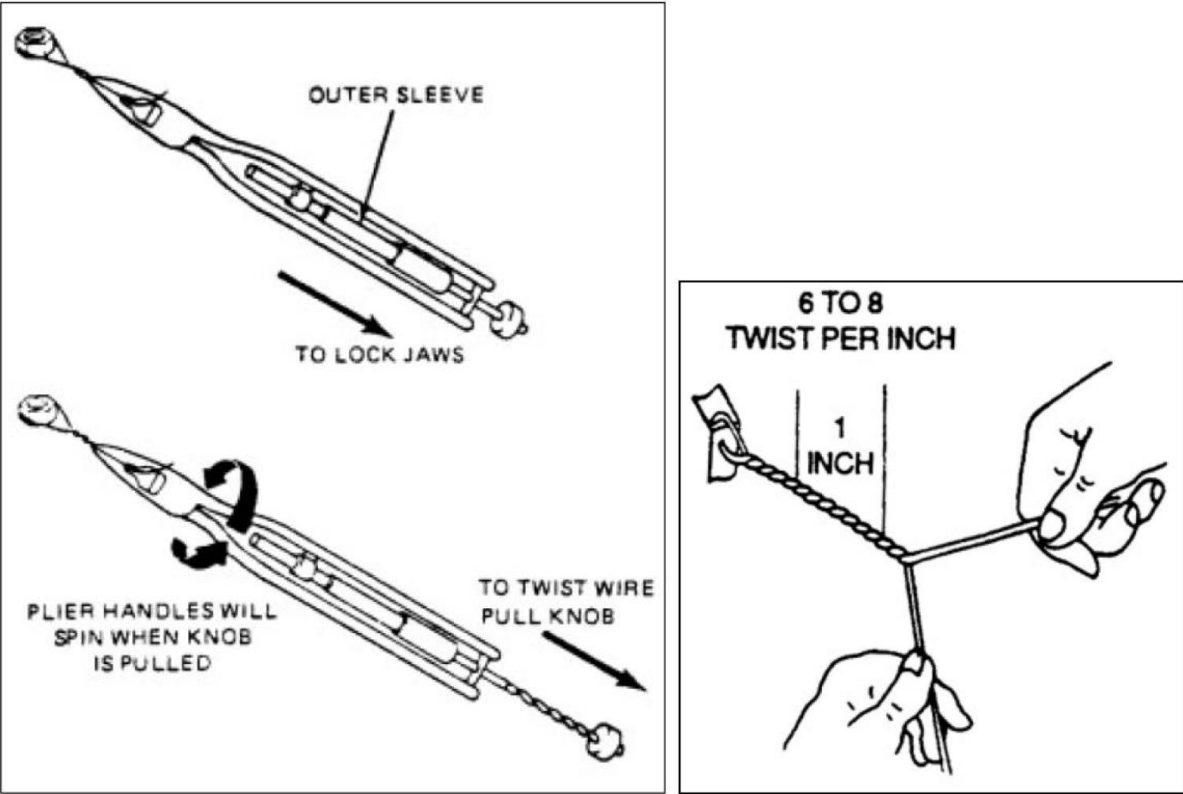

Figure 48 – Safety Wire Installation Using a Twister/Pliers & By Hand
- e. Safety wire must never be over-stressed. Safety wire will break under vibrations if twisted too tightly. Safety wire must be pulled taut when being twisted, and maintain a light tension when secured (Figure 48).